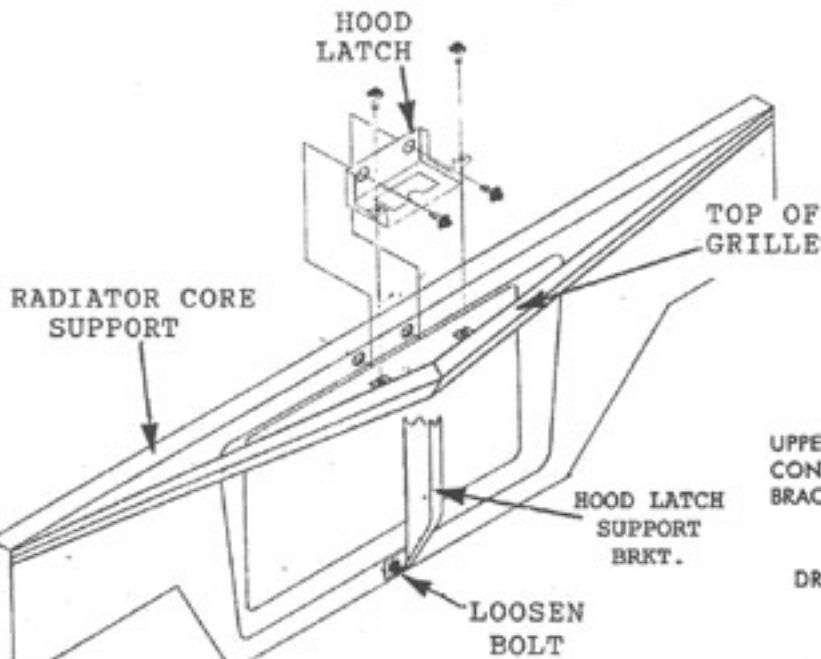

FIGURE 6
1. Remove the hood latch assembly, upper grille bolts, and passenger side horn as Figure 6 shows.
2. Remove the lower hood latch support brace bolt as Figure 6 shows.